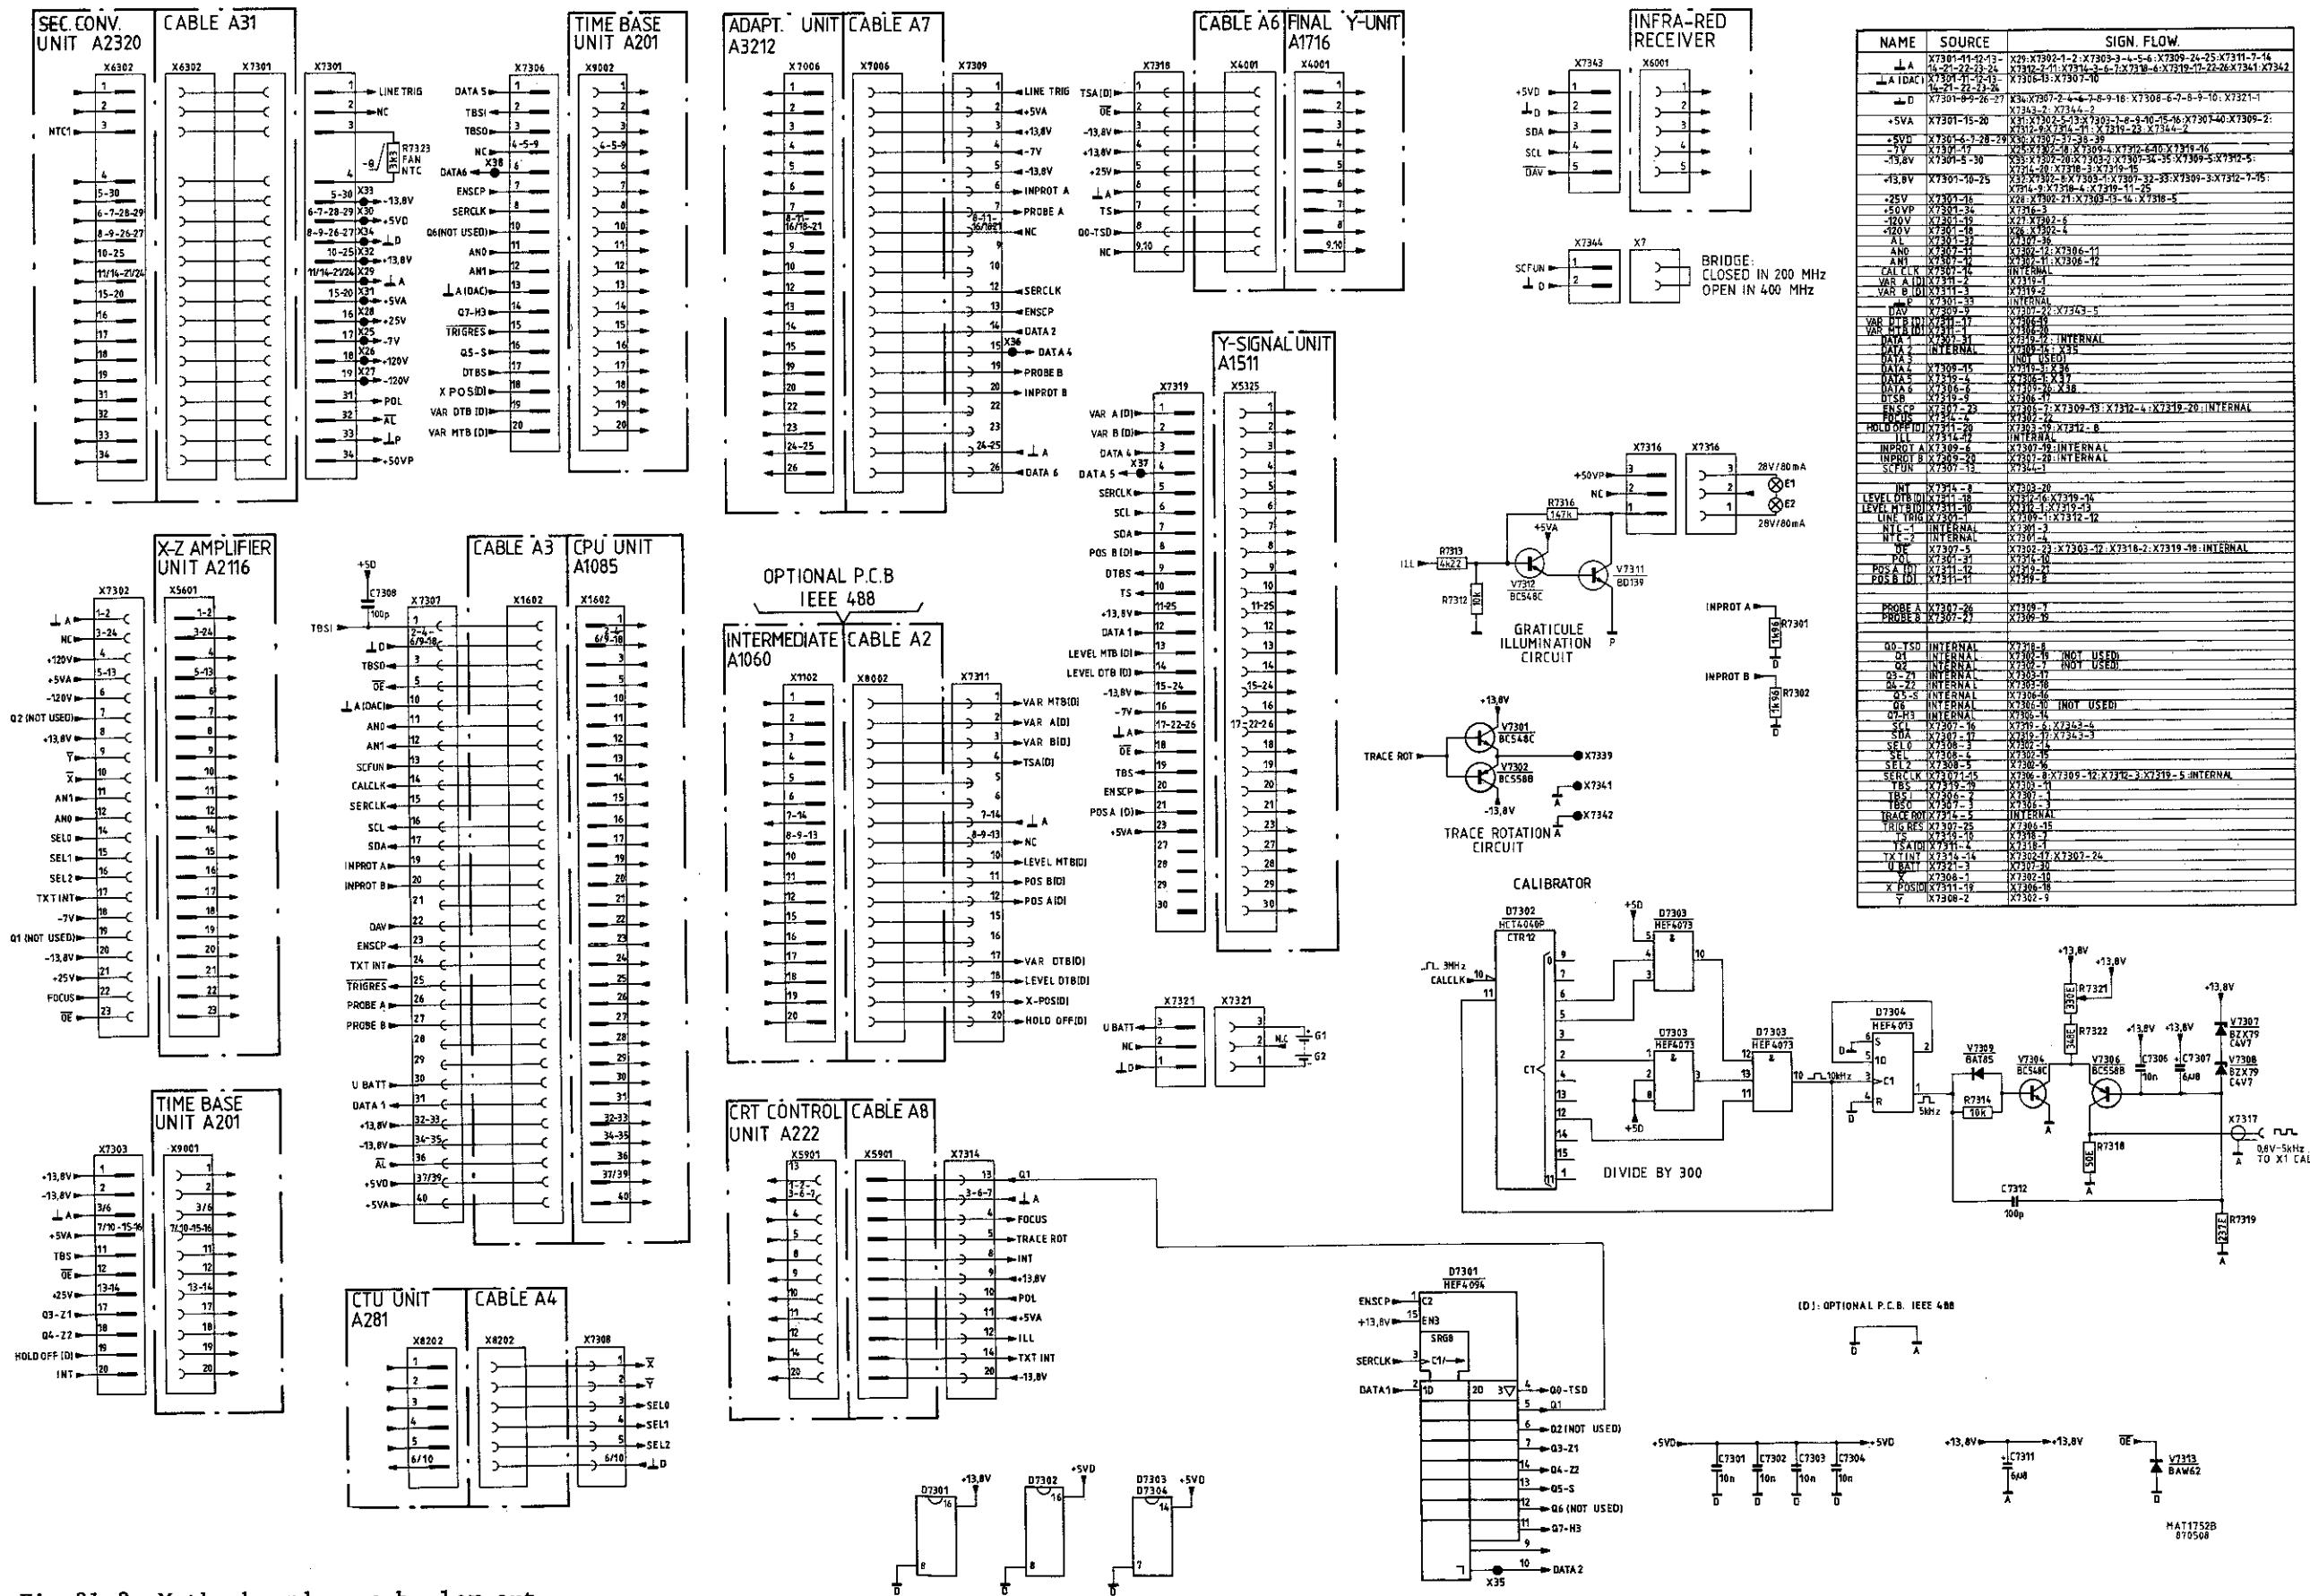

Fig.21.2. Motherboard, p.c.b. lay-out.
21. CIRCUIT DESCRIPTION OF MOTHERBOARD (See fig.21.2)
The various connectors located on the mother board are given in Fig. 21.2 together with their functional data.
A survey of signal names, which are present on the mother board, with their source and destinations (signal flow) is also given in fig. 21.2.